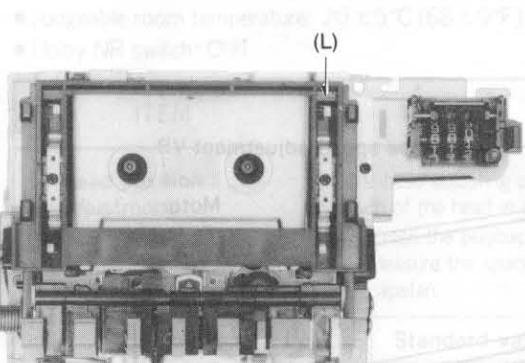
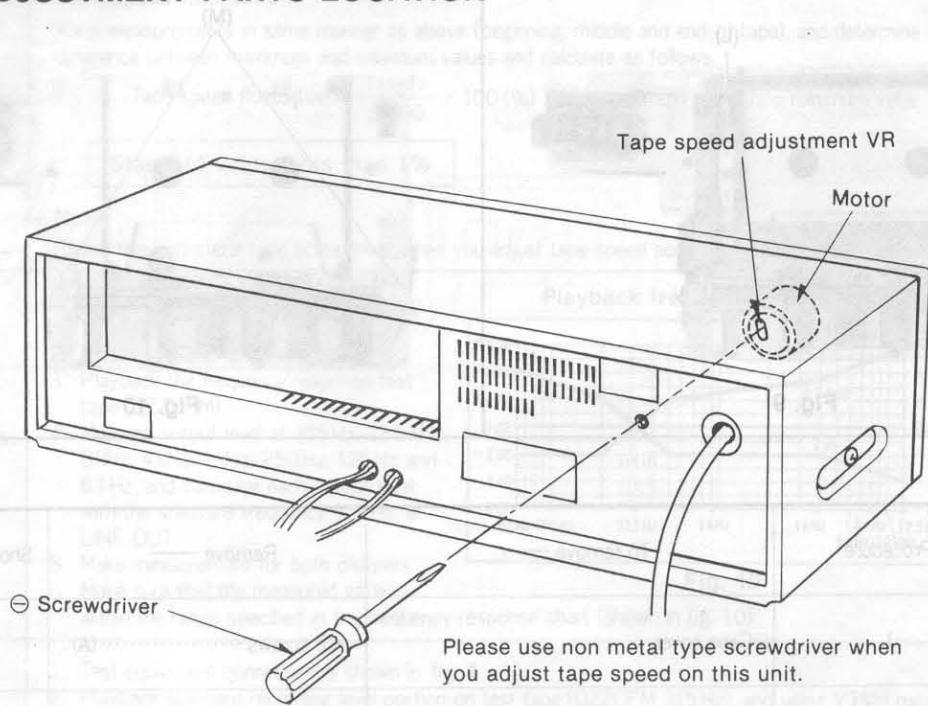

Fig. 9
Fig. 1
3. Tape speed adjustment VR shown in Fig. 1
C Tape speed  Condition: * Playback mode  Equipment: * Digital electronic counter or frequency counter * Test tape ... QZZCWAT	<p>Tape speed accuracy</p> <ol style="list-style-type: none"> <li>1. Test equipment connection is shown in fig. 9.</li> <li>2. Playback test tape (QZZCWAT 3,000Hz) at middle section and supply playback signal to frequency counter.</li> <li>3. Measure this frequency.</li> <li>4. On the basis of 3,000Hz, determine value by following formula:</li> </ol> $\text{Tape speed accuracy} = \frac{f - 3,000}{3,000} \times 100 (\%) \quad \text{where, } f = \text{measured value}$ <p>Standard value: <math>\pm 1.5\%</math></p> <p>Adjustment method</p> <ol style="list-style-type: none"> <li>1. Playback the test tape (middle).</li> <li>2. Adjust so that frequency becomes 3,000Hz.</li> <li>3. Tape speed adjustment VR shown in fig. 1.</li> </ol>  <p>Fig. 9</p>